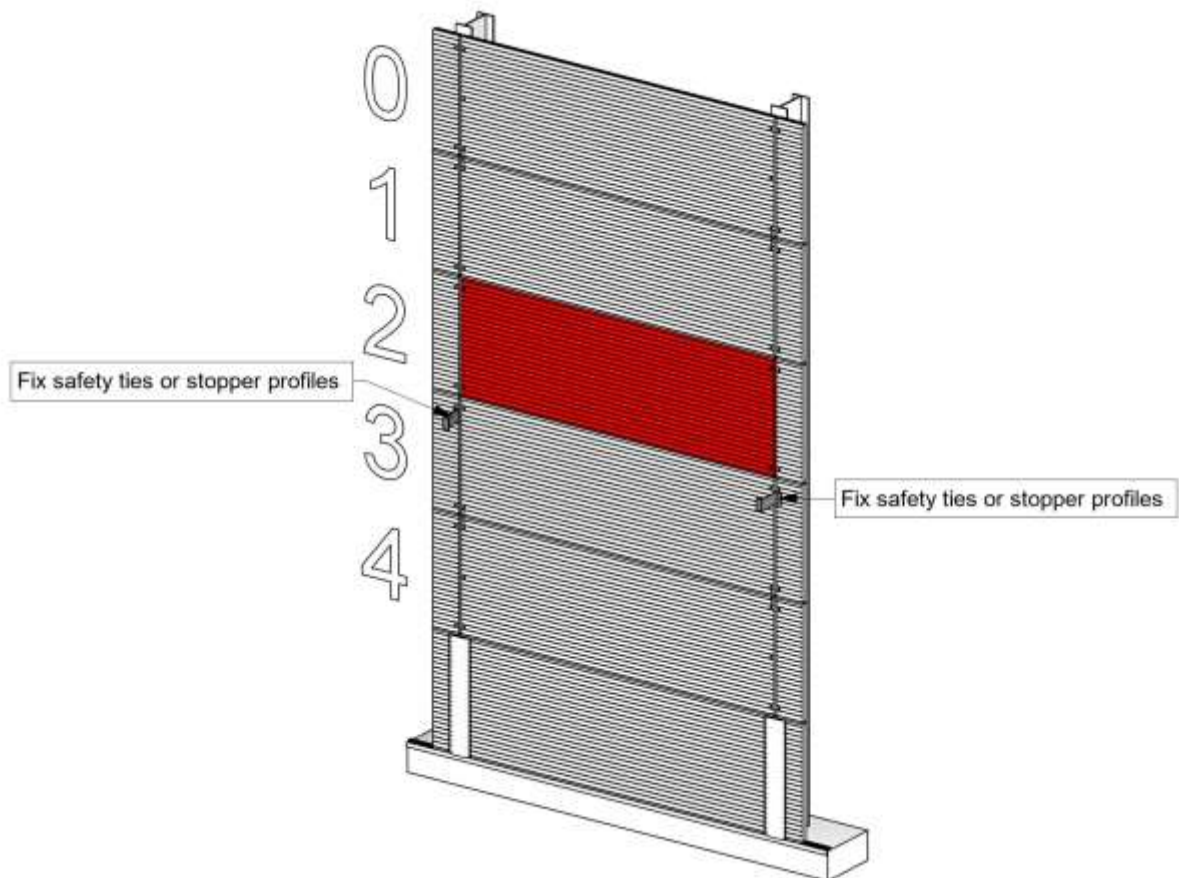

Fig. 13.6
STEP 5. Fix safety ties or stopper profiles (Figure 13.6) at both ends of panel 3 to make sure that when panel 2 is removed, the inner surface of panel 3 would be around 5 cm away from the wall surface. Length of the tie or profile = panel width + 15 cm. Remove fixation screws from panel 3 and panel 1.